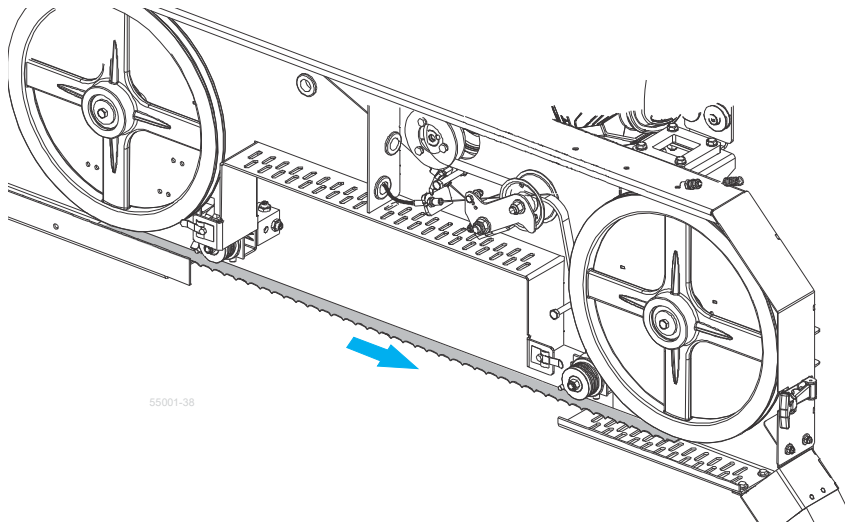

FIG. 1-33
- Place the new blade around the blade wheels and through the blade guides. See FIG. 1-33..
2. Thread the lube water tube through the grommet next to the right blade guide. See FIG. 1-33.